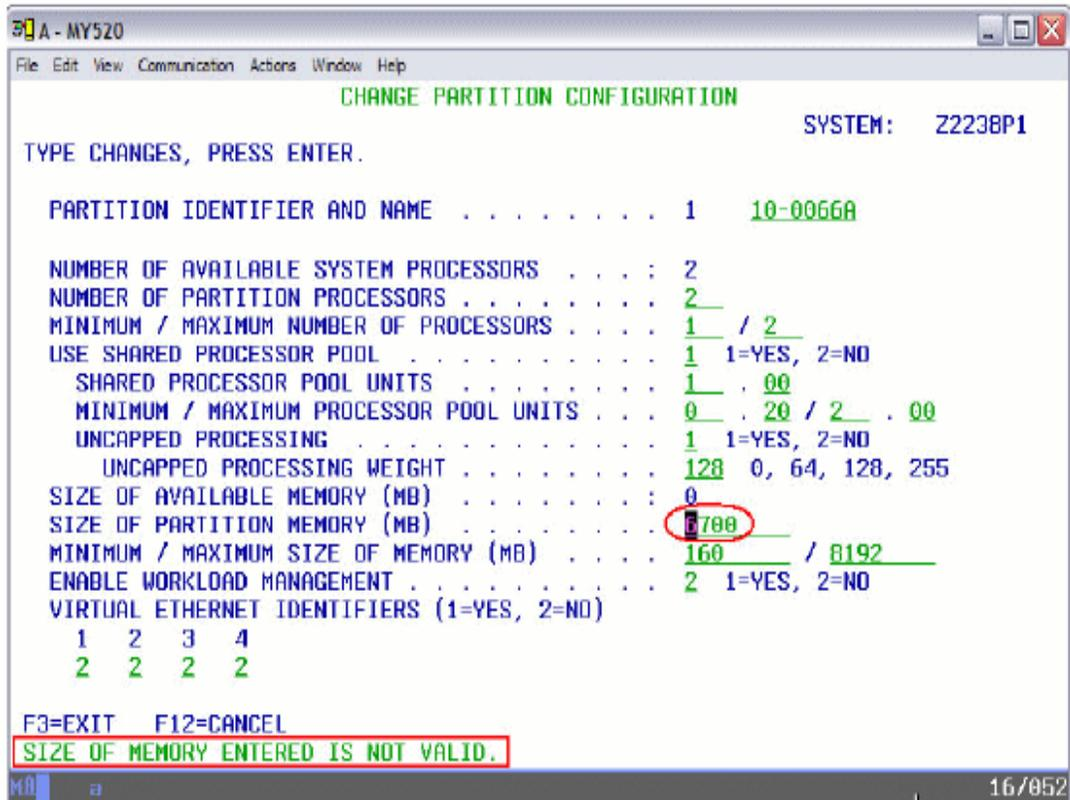

Figure 13-10 Change Partition Configuration Memory Error
- **Size of Partition Memory:** Linux partitions require a minimum of 128 megabytes. In this example, the value indicates the amount of main storage that remains with i5/OS partition. Make the new value multiples of the value set as the LMB size during your initial set up using ASMI. For example, you cannot set a value of 6700 because it gives an error message, like the one show in Figure 13-10. See the memory section, at the following Web address, in eServer Information Center for additional details: